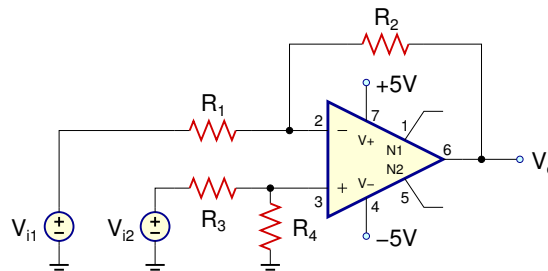

Figure 2: Differential amplifier circuit
The differential amplifier is designed to amplify the difference of the two inputs. The simplest configuration is shown in Fig. 2. If the resistor values are chosen such that $R_2/R_1 = R_4/R_3$, then the output of the amplifier is given by:
2. For the differential amplifier in Fig. 2, find R_1 to have $V_o = V_{i2} - V_{i1}$, if $R_2 = R_3 = R_4 = 10k\Omega$.
1. Build the circuit in Fig. 2 with the simulated component values.
1. Build the circuits in Figs. 2 and 3 on your breadboard and bring it to your lab session.
4. For the differential amplifier in Fig. 2: